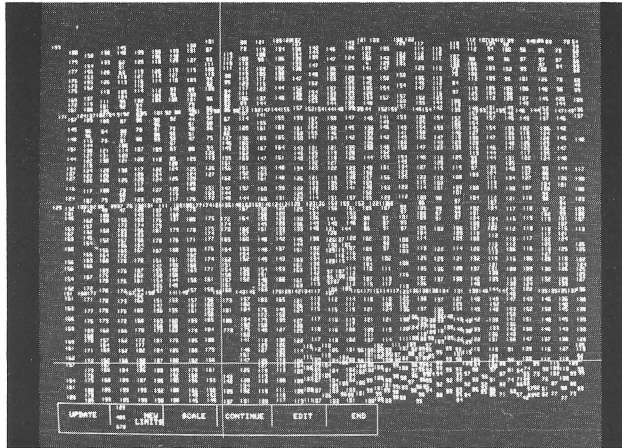

Figure 19
The program is then put into edit mode and the cursor is moved onto sounding 778 (Figure 18). The Move Key (M) is then depressed. The cursor is then moved to the desired location and Key M is depressed again. When the screen is refreshed, sounding 778 will appear at the desired location (Figure 19).